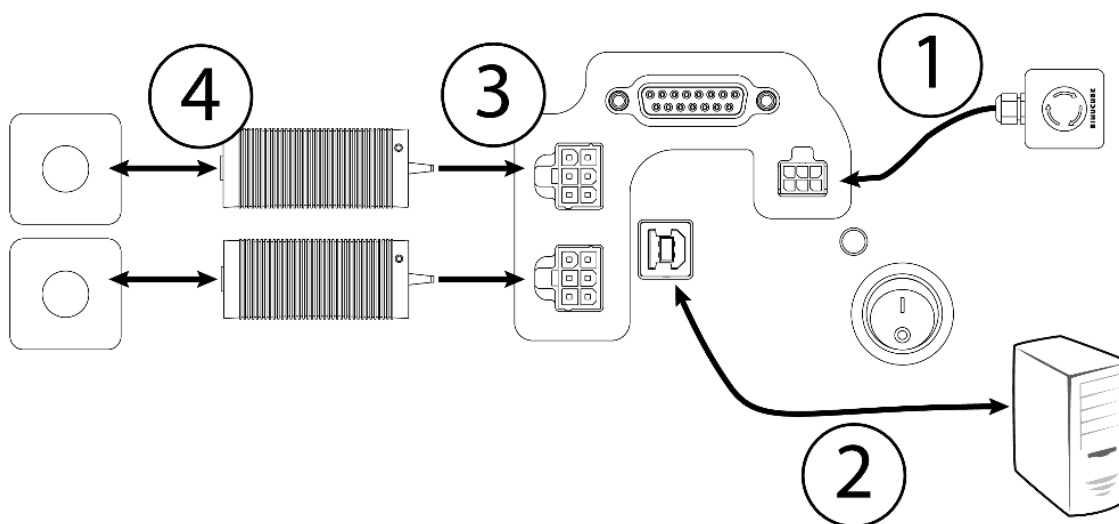

Figure 5 Simucube 2 Sport and Pro wiring diagram.
Connect the cables as indicated in figures 5 and 6. Important: always connect the AC power supplies first to Simucube (connection 3) and only then to AC mains socket (4).